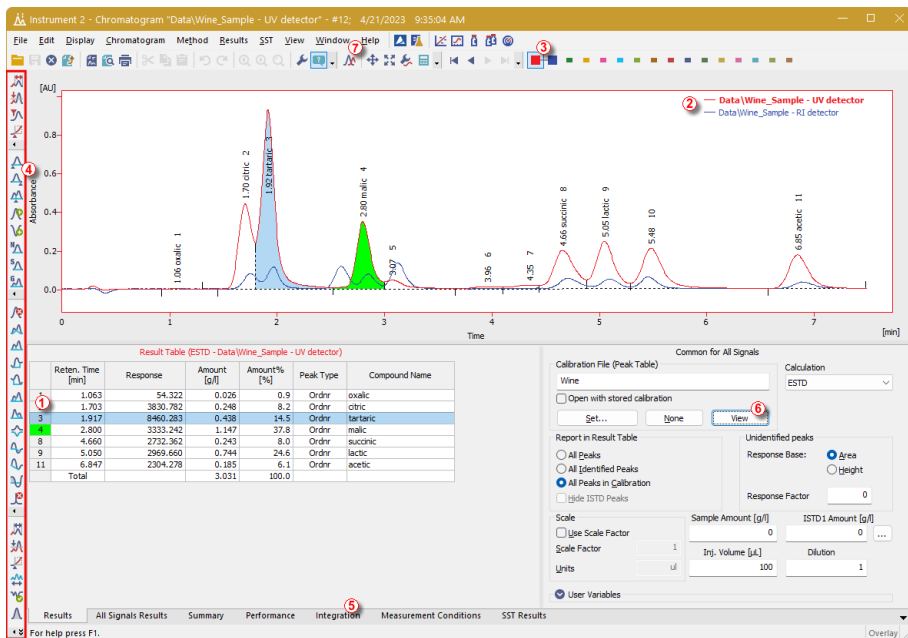

Fig. 16: The Chromatogram window
- Multiple chromatograms may be displayed at once. Switch to the *Overlay* mode by pressing the *Overlay*  button found on the *Overlay* toolbar ( in Fig. 16 on pg. 23.) and then open all reprocessed chromatograms altogether. You can click the *Overlay*  button again to close all the chromatograms except the currently active one.